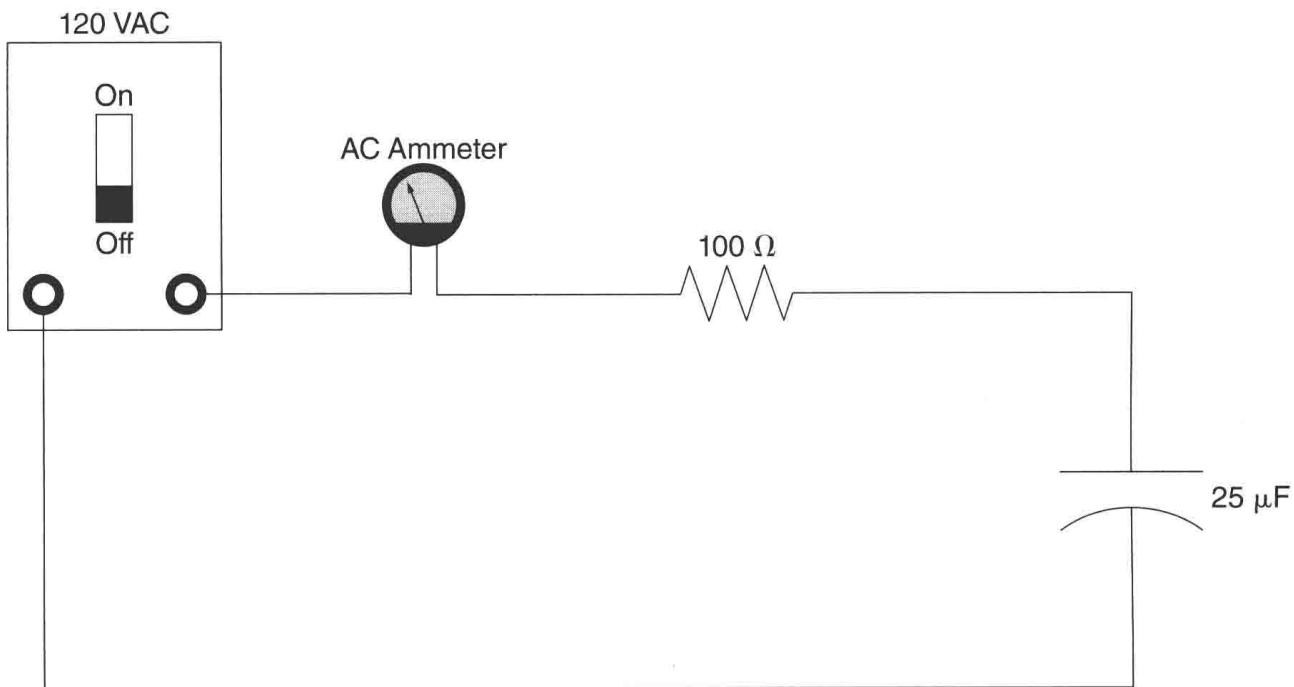

Figure 14-4 A 100 ohm resistor is connected in series with a 25 μF capacitor.
1. Connect the circuit shown in Figure 14-4.